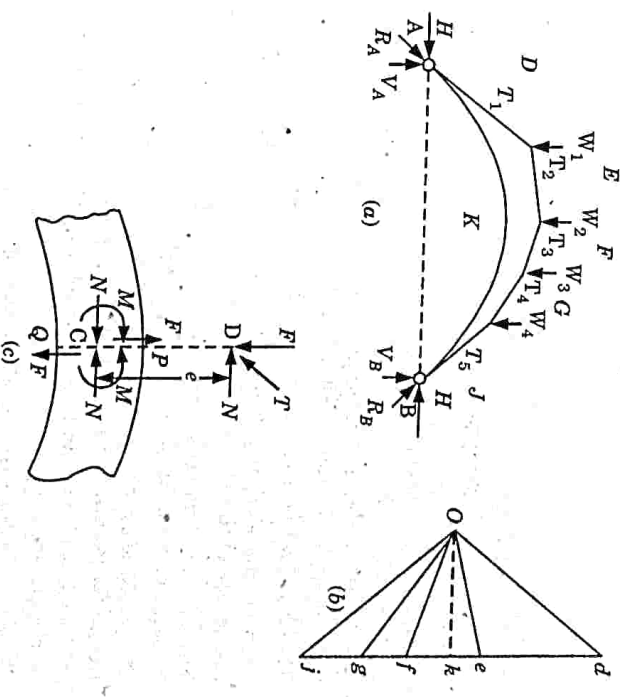

Fig. 5.3.1
1. Consider a cross-section PQ of the arch Fig. 5.3.1(c). Let T be the resultant thrust acting through D along the linear arch.